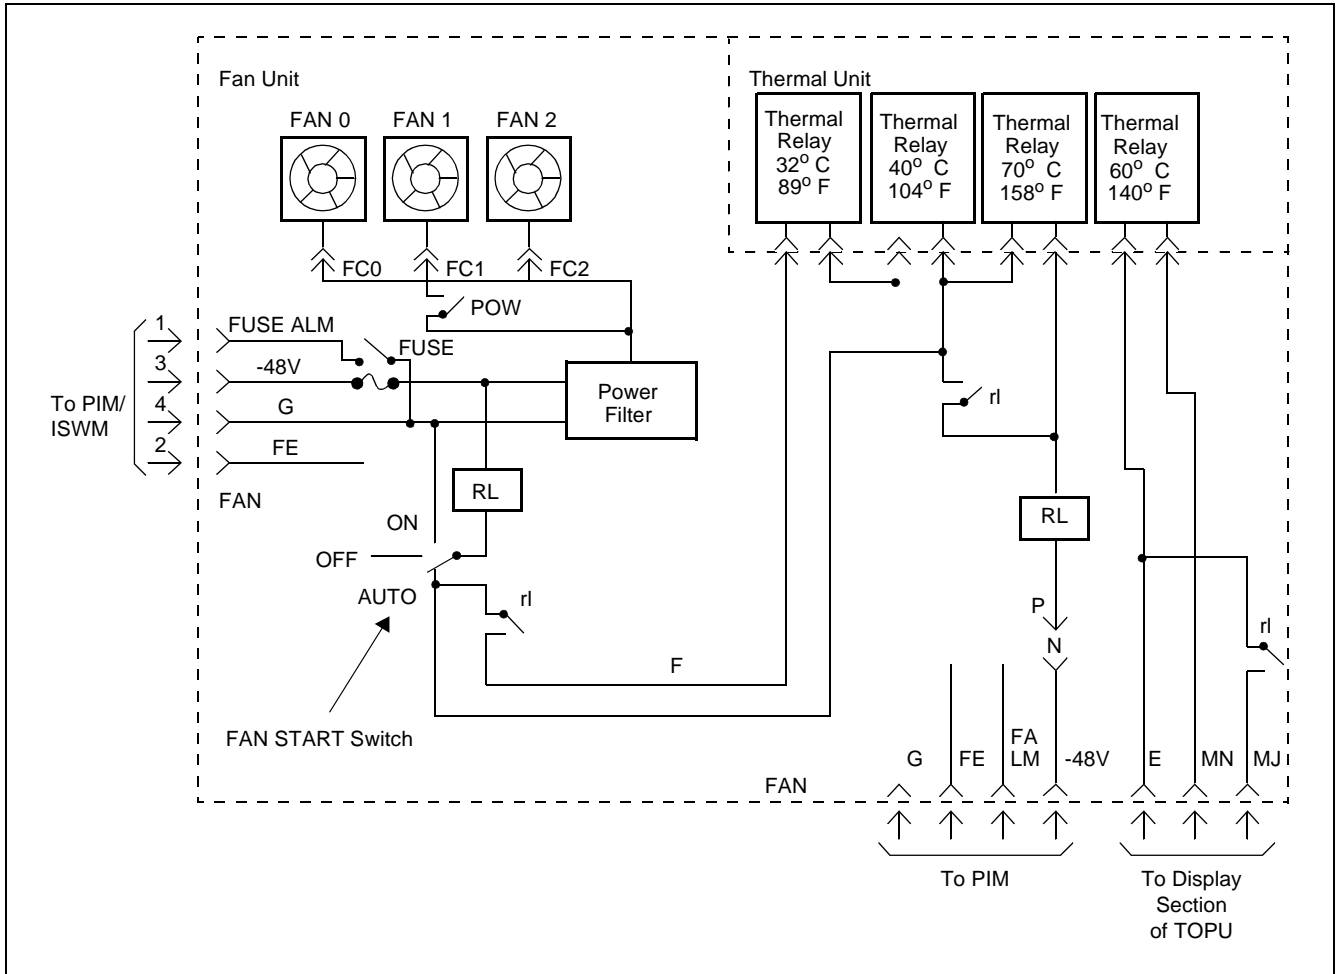

Figure 5-21 Circuit Diagram of Fan Unit and Thermal Unit
- (1) When repairing a FANU fault, exercise care about the following conditions. The fans (a total of 3) are activated by operating the PWR SW key located on the PZ-M369. The conditions for starting the fan are as follows:
- With PWR SW key for the fan set to AUTO position: Starts operating if the in-frame temperature is higher than 40°C (104°F); stops operating at temperatures lower than 32°C (90°F). See Figure 5-21.
- (2) When replacing the FANU with a spare, refer to Section 4, Chapter 4.